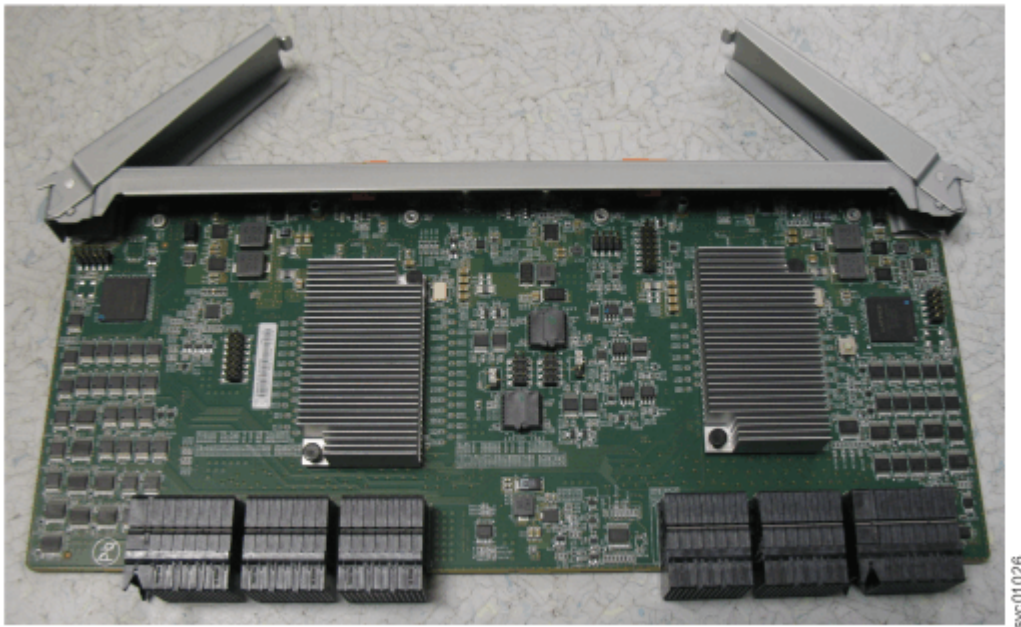

Figure 88. Open the secondary expander module handles
3. Rotate both handles on the new secondary expander module to an open position, as shown in Figure 88 on page 72.